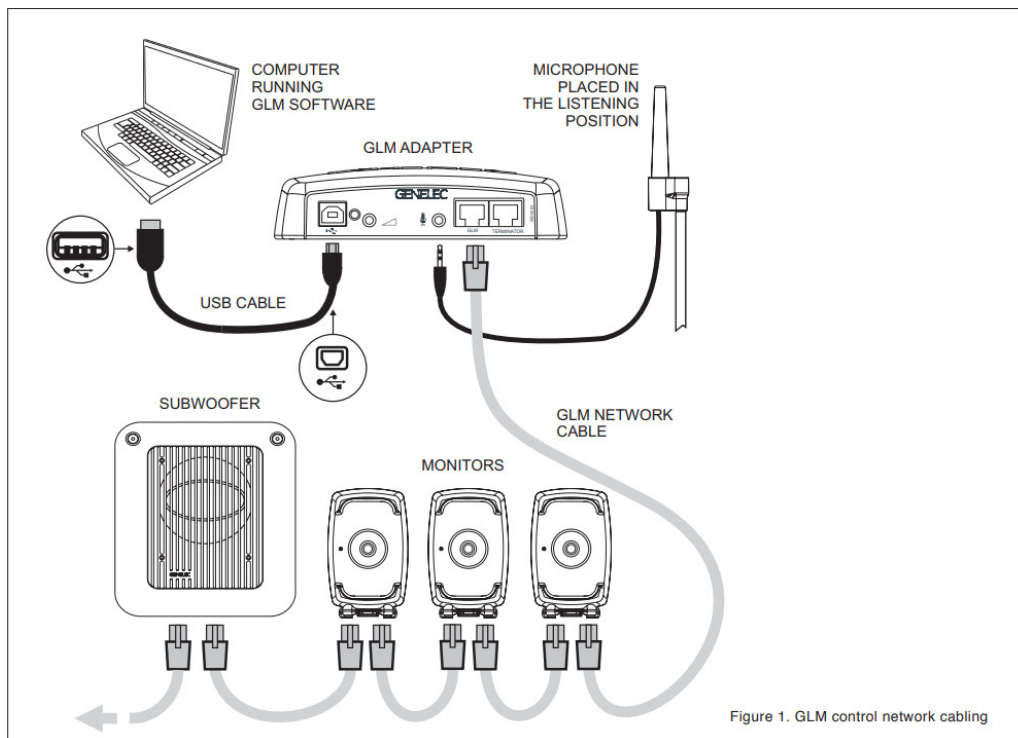

Figure 1. GLM control network cabling
1. Connect a CAT5 (RJ45) cable between each monitor (and subwoofer) and finally to the control network input of the GLM Adapter device (see Figure 1).